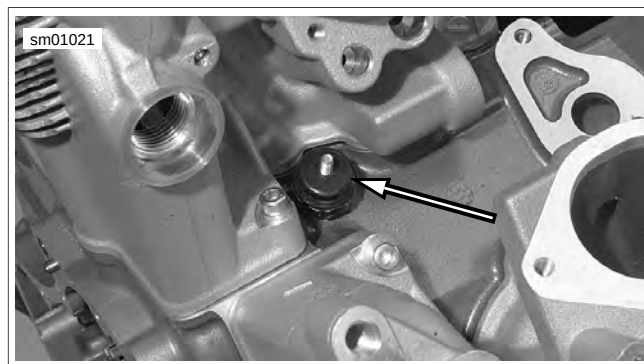

Figure 7-43. Oil Pressure Switch (typical)
7. See Figure 7-43. Remove the wiring harness connector [120] from the oil pressure switch.